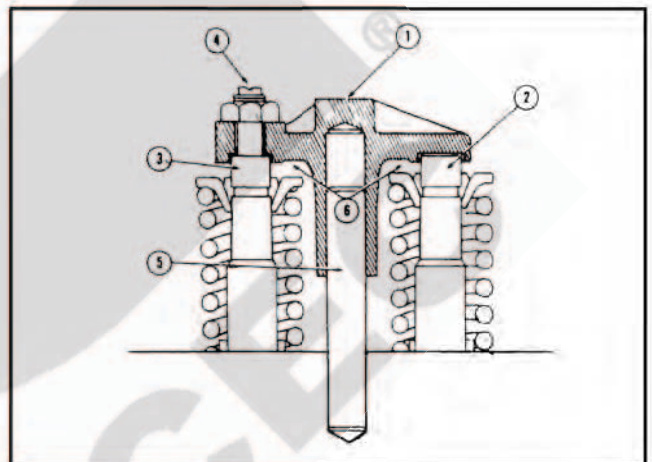

Fig. 2-29, (K21924). Valve crosshead
1. Loosen the valve crosshead adjusting screw locknut and back off the screw (4, Fig. 2-29) one turn.
1. Loosen the adjusting screw locknut, back off the screw (4, Fig. 2-29) one turn.
2. Use light finger pressure at the rocker lever contact surface (1) to hold the crosshead in contact with the valve stem (2). The adjusting screw should not touch the valve stem (3) at this point.
3. Turn down the adjusting screw until it touches the valve stem (3).
5. Check the clearance (6) between the crosshead and the valve spring retainer with a gauge. There must be a minimum of 0.025 inch [0.64 mm] clearance at this point.